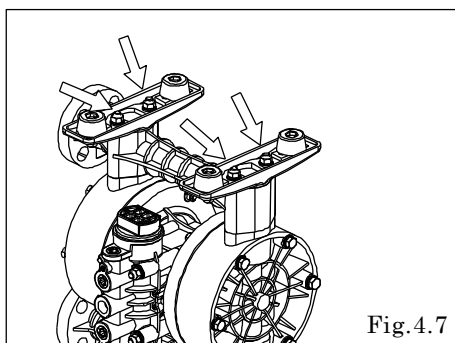

Fig.4.7
- Pull out the tie rod, and remove the base and in manifold. [Fig.4.7]